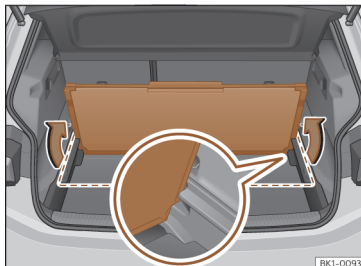

Fig. 138 In the luggage compartment: attach the second luggage compartment floor.
- Once folded, lift it up and insert it into the side brackets, with the open side facing downwards»»» **Fig. 138** (enlarged image).